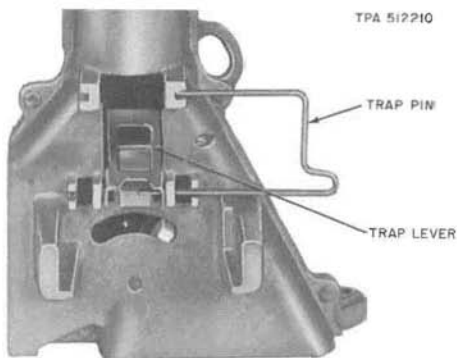

Fig. 31—Placing Trap-Lever Pin on Hopper
- (1) Partially insert trap pin into hole in hopper (Fig. 31) and place trap-lever on trap pin.